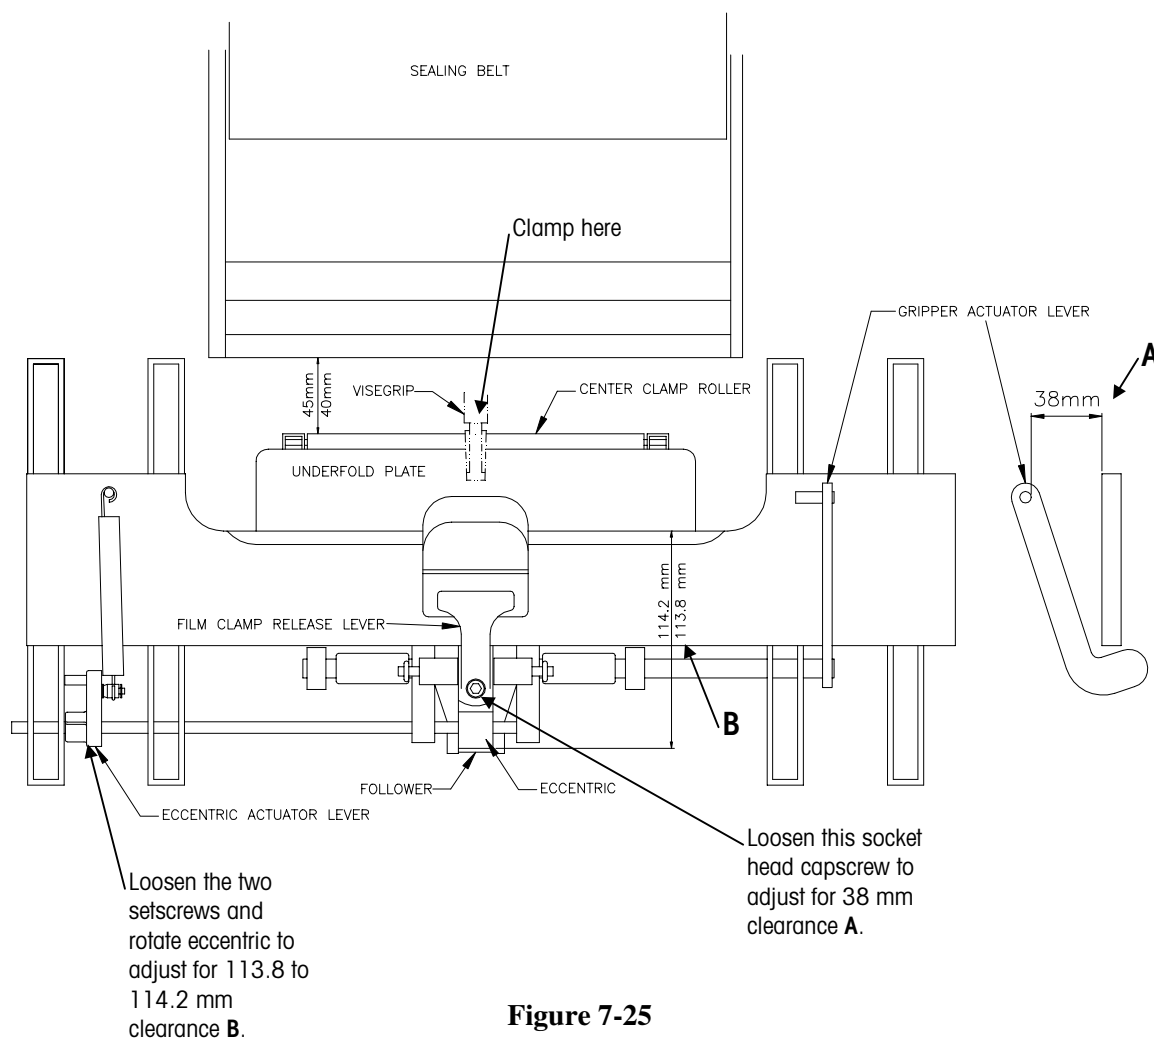

Figure 7-25
2. Measure the position of the eccentric as shown in Figure 7-25. The film clamp eccentric should be located so that the distance from the back of the eccentric to the front of the gripper frame is  $114 \text{ mm} \pm 0.2 \text{ mm}$ .
1. Check the distance between the bottom of the pin on the gripper actuator lever and the Center Clamp frame. The distance should be 38 mm +/- 0.1 mm (See Figure 7-25).
4. At this point there should be a distance of 40-45 mm between the Center Clamp roller and the first roller of the sealing belt (See Figure 7-25).